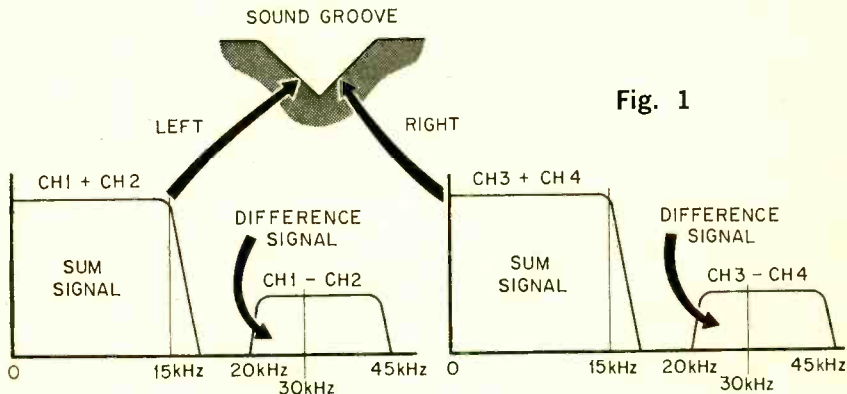

Fig. 1
□ The biggest design problem facing CD-4 was how to put four discrete channels of sound into a V-shaped record groove. This seemingly insurmountable technical problem was solved by modulating two additional audio channels into the groove in much the same way as is done in FM stereo broadcasting. See Fig. 1.